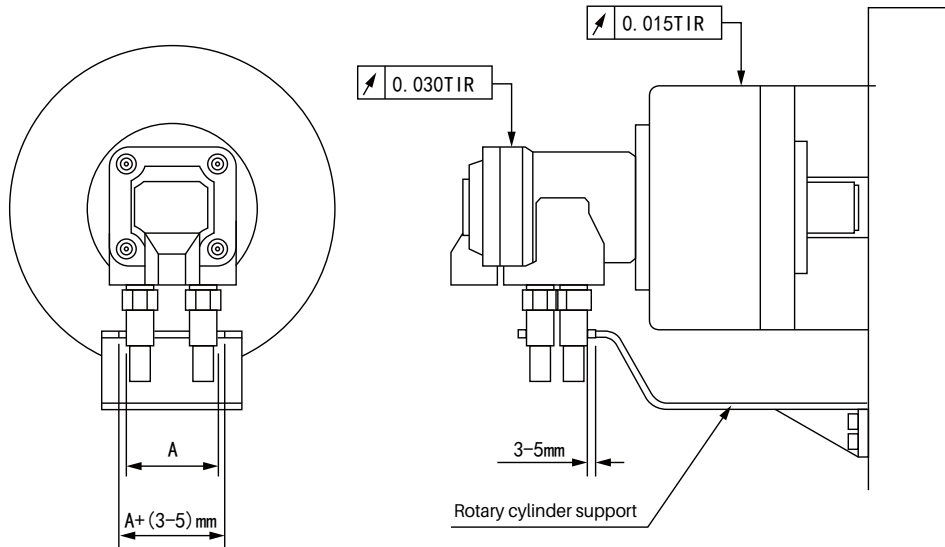

Figure 9
(6) To prevent the oil cylinder housing from rotating, a support is installed at the protrusion at the bottom of the oil port. The support is fixed to the body and ensures a gap of 3-5 mm with the oil pipe, as shown in Figure 9.
(7) Before installing the oil pipe, any foreign matter inside the pipe must be completely cleaned. The drain pipe and oil pipe must not form a back pressure state, and flexible hoses must be used for the pipes to prevent the bending and tension from affecting the action of the hydraulic cylinder.
(8) The designer of the hydraulic circuit provides a safety circuit based on the principles of ease of operation and safety to prevent hazards during power outages.